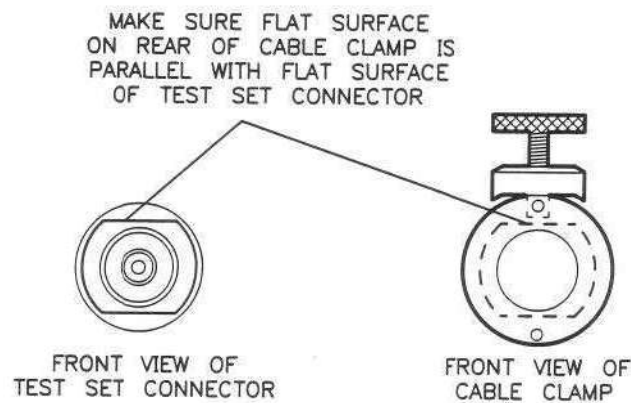

Figure 3-5. Visually Aligning Clamp and Nut Flats
3. See Figure 3-5. Turn the clamp so that the thumbscrew is pointing up. From there, turn the clamp to visually align the clamp flats with the flats on the test port connector nut. This will minimize rotating the connector in the next step.